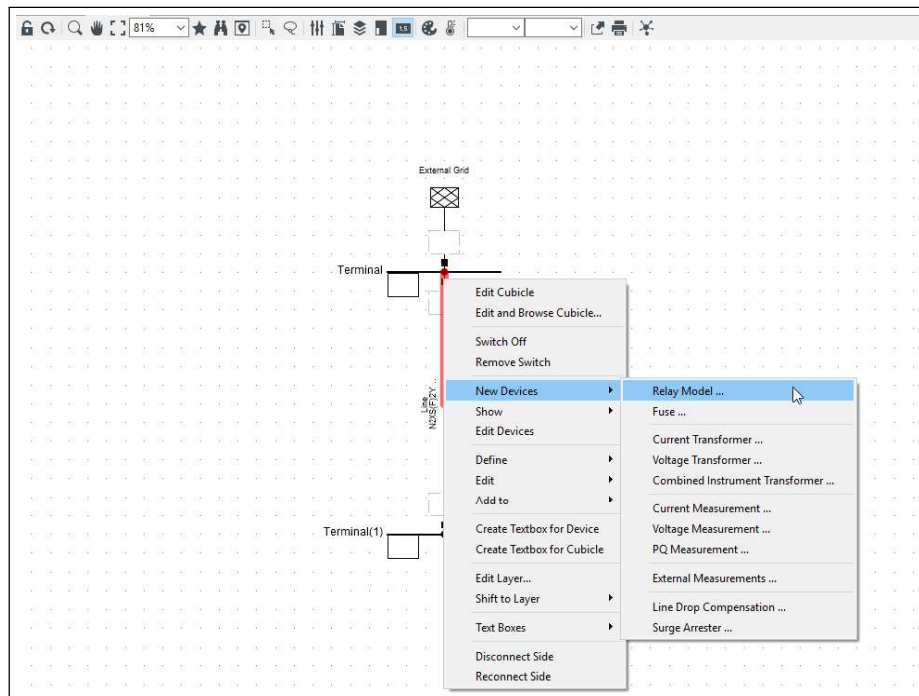

Figure 24.13.9: Cubicle context menu
- Select *New Devices.../Relay Model...* as shown in Figure 24.13.9.